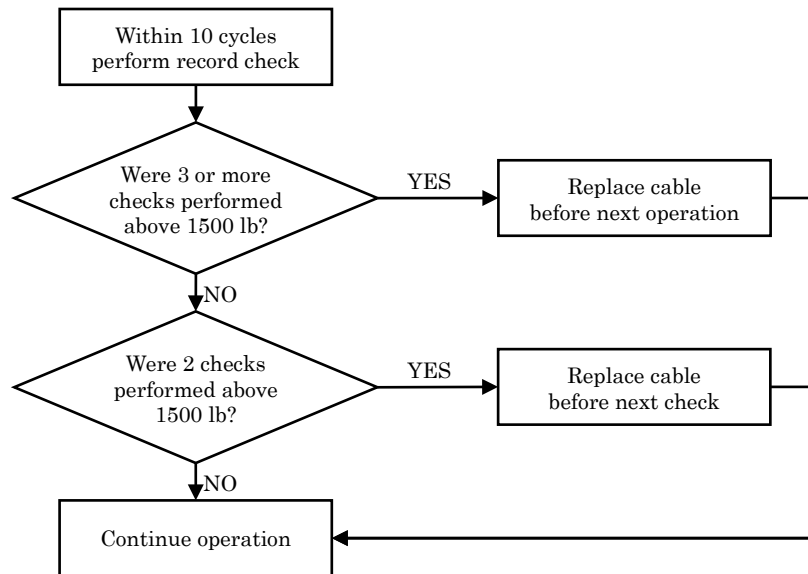

Figure 1
2.1 Within 10 hoist operating cycles from June 17, 2016 (the effective date of AD No. TCD-8201C-2016), accomplish a records check to determine whether, during any previous hoist load check/test, a cable was load-tested (average of 5 pulls) at 1500 lb [680 kg] or more. If any cable is identified to have exceeded this limit during two or more hoist load checks/tests, replace the affected cable with a serviceable cable within the time interval shown in paragraph 2.1.1 or 2.1.2 of this AD. For replacement of a cable, see Figure 1 of this AD.